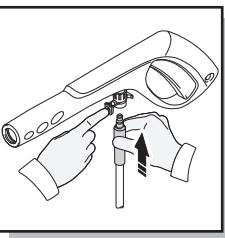

Fig. 3
- Screw the high pressure hose (clockwise) on the back of the unit at the bottom (Fig. 3). The end of the hose must be inserted into the water outlet far enough so the collar can thread onto the outlet threads until hand tight. Do not use pliers or vice grips to tighten. If it takes fewer than six or so turns you have not properly tightened the high pressure hose fitting. It is easier to position the power washer in front of you so to ensure that the threads are started correctly. Failure to properly tighten the high pressure hose will result in the hose slipping or popping off immediately upon turning the unit on. Do not worry about damage if this occurs - just reinstall and take extra care at screwing on the high pressure hose fitting.